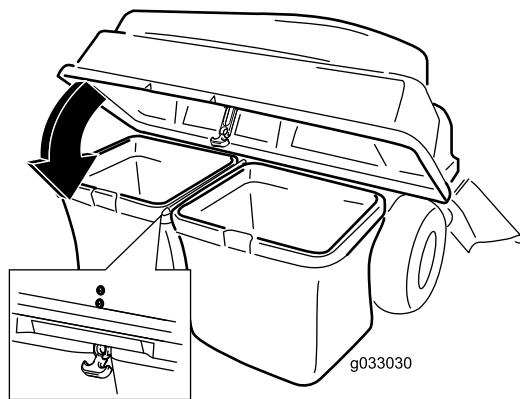

Figure 23
5. Lower the bagger top onto the bags (Figure 23).
6. Secure the hood with the latch (Figure 23).